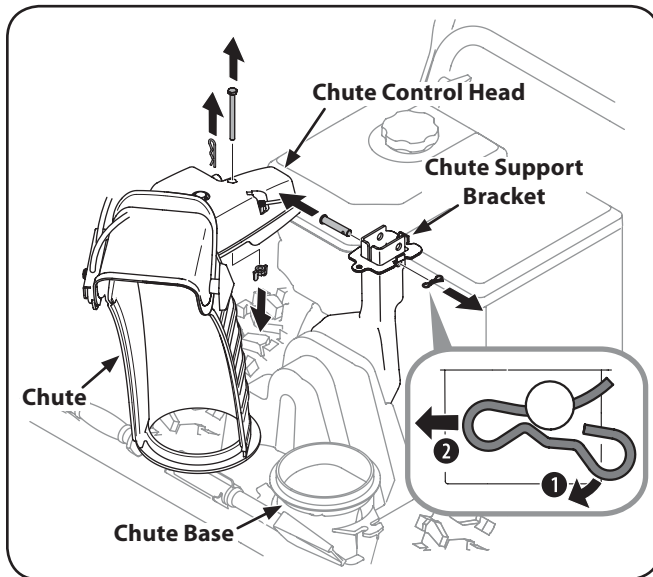

Figure 3-3
1. Remove hairpin clip, wing nut and hex screw from chute control head and clevis pin and bow-tie cotter pin from chute support bracket. See Fig. 3-3.
- Finish securing chute control head to chute support bracket with wing nut, clevis pin, and bow-tie cotter pin removed in step 1. See Fig. 3-3.